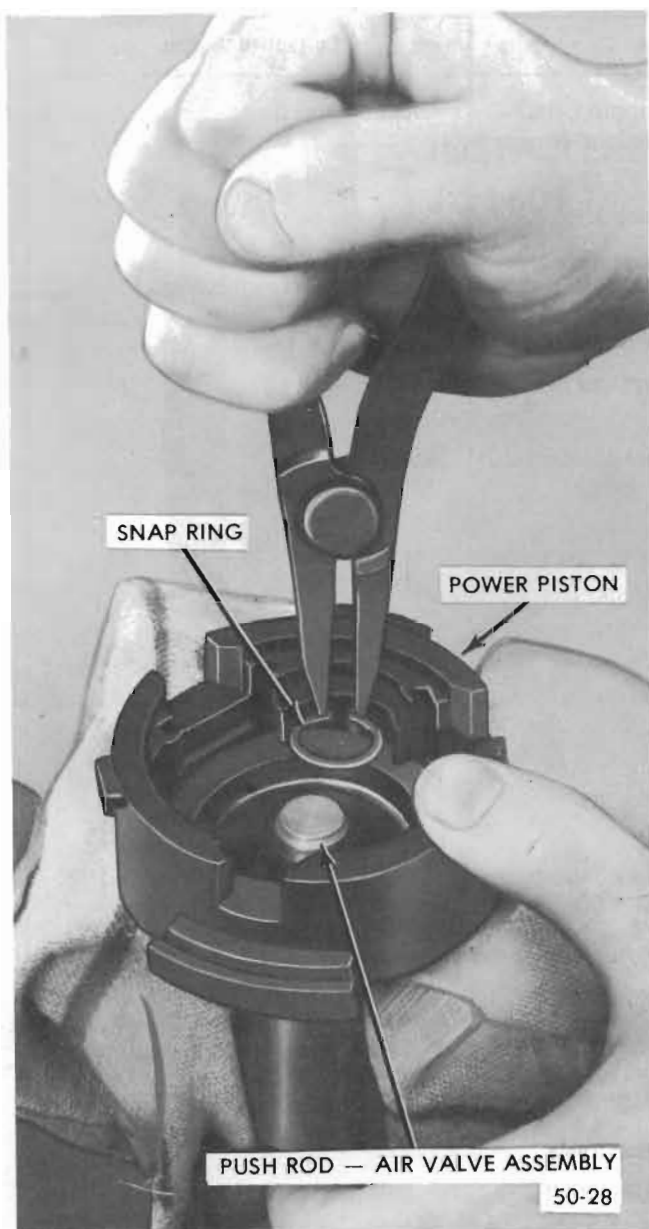

Figure 50-109 Removing Power Piston Snap Ring
10. Use No. 22 Truarc Pliers or J-4880 to remove snap ring on air valve. See Figure 50-109.